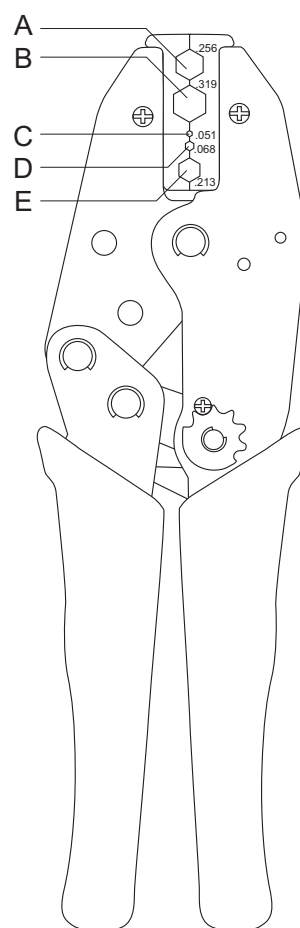

Figure 8. Motorola Crimping Tool 66-80388A26
Use Motorola tool part # 66-80388A26 (Refer to Figure 8).
4. Crimp center contact using crimp area C of Figure 8 . Crimp at base of center contact, avoid crimping at the tip. Refer to Figure 9.